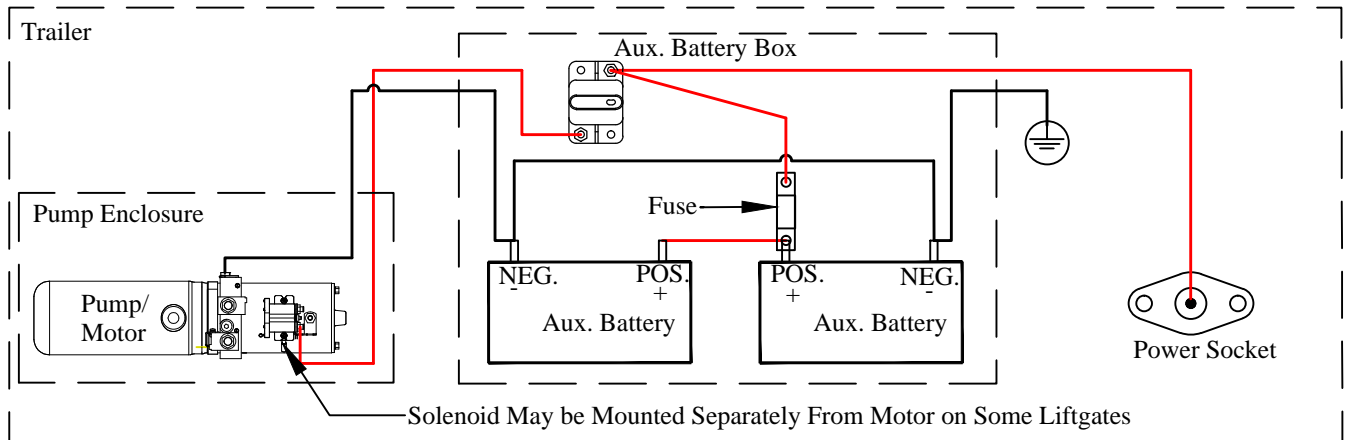
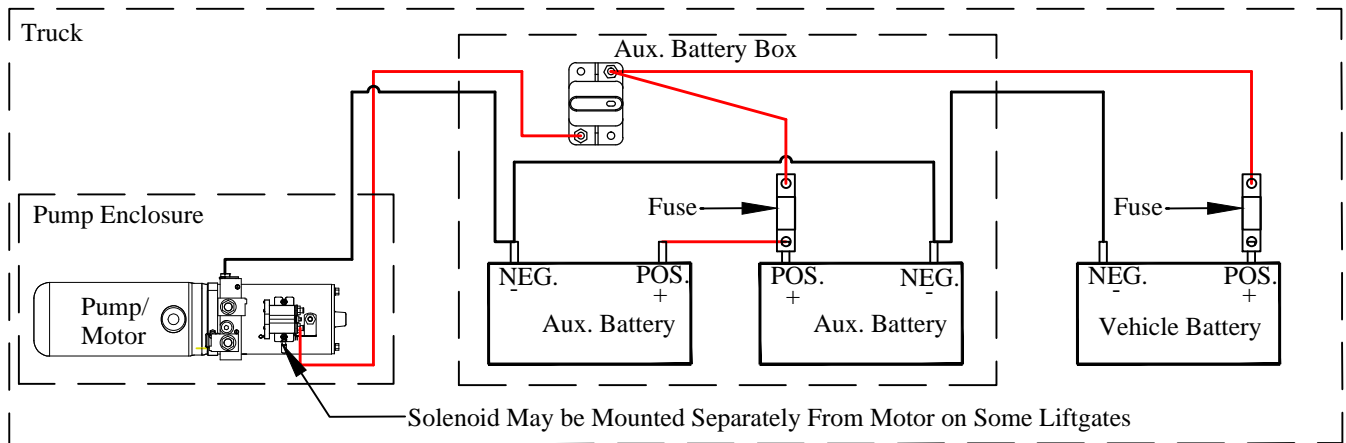

Figure 21: Trailer applications; 12V auxiliary battery wiring diagram.
Figure 22: Truck applications; 12V auxiliary battery wiring diagram.
13. **Connect** the batteries to the corresponding cables by referencing the appropriate wiring diagram below (Figure 21 for trailer applications) and (Figure 22 for truck applications).